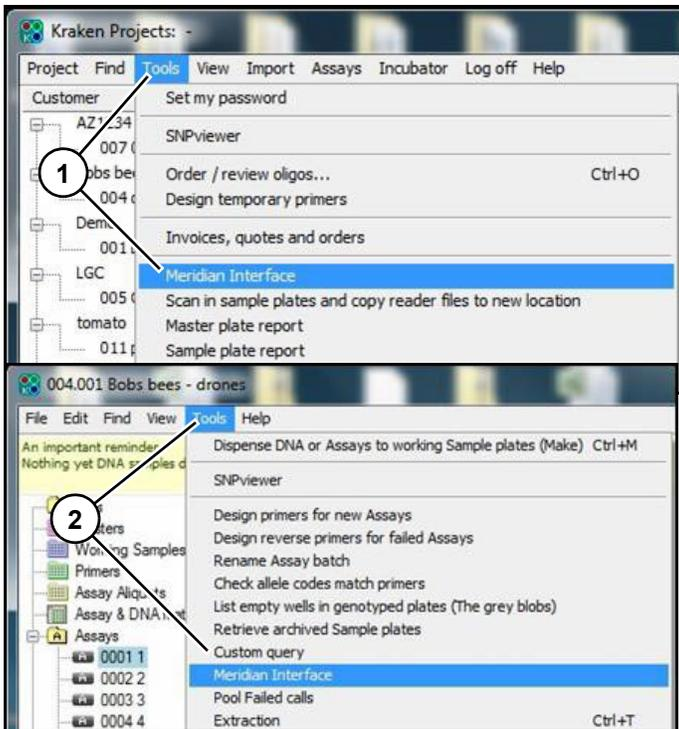

Figure 5
11. Open interface using "Tools" drop down on "Project" window (1) or Global window (2). (Figure 5)